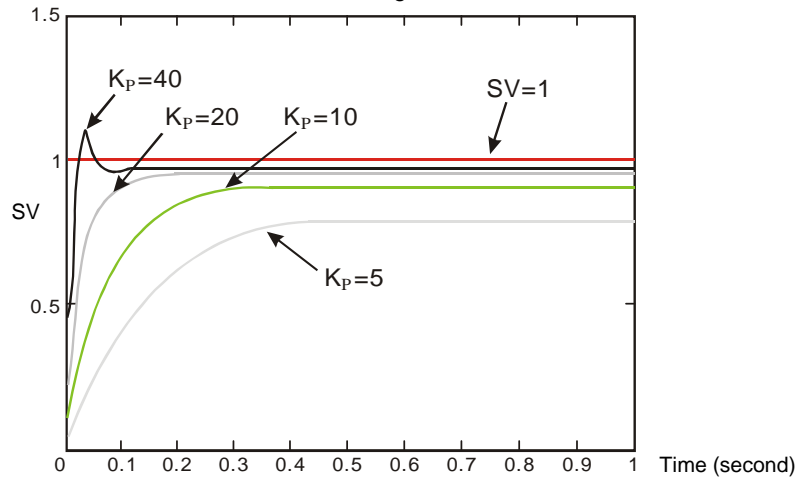

Figure 3
Step 1: First, set the K_I and the K_D to 0. Next, set the K_P to 5, 10, 20 and 40 successively, and record the target values and the present values. The results are shown in Figure 3.